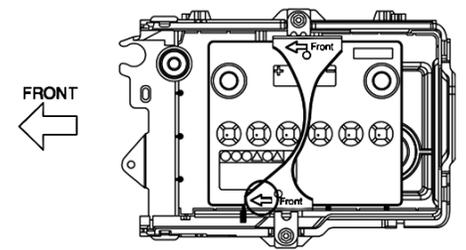

Fig. 3 Battery clamp installation
2. Install battery clamp. Assemble battery clamp so that arrow on it is pointed toward front of vehicle, **Fig. 3**.